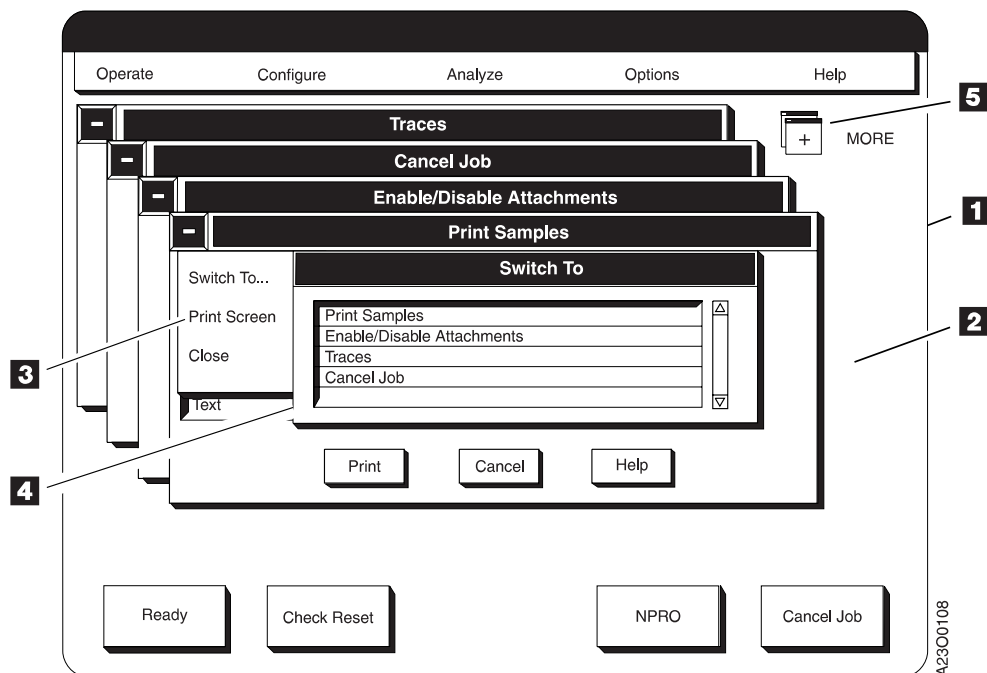

Figure 3-11. Procedure Windows in Cascade Format
- A selection list box with many items from which to select. See **4** in Figure 3-11 on page 3-20 for an example of a pop-up window with a selection list box.
Displays a pop-up window that lists all of the procedures that are currently open (for example, see **4** on Figure 3-11 on page 3-20). Selecting any procedure name from the list moves the window for the procedure to the front.
Figure 3-11 shows: